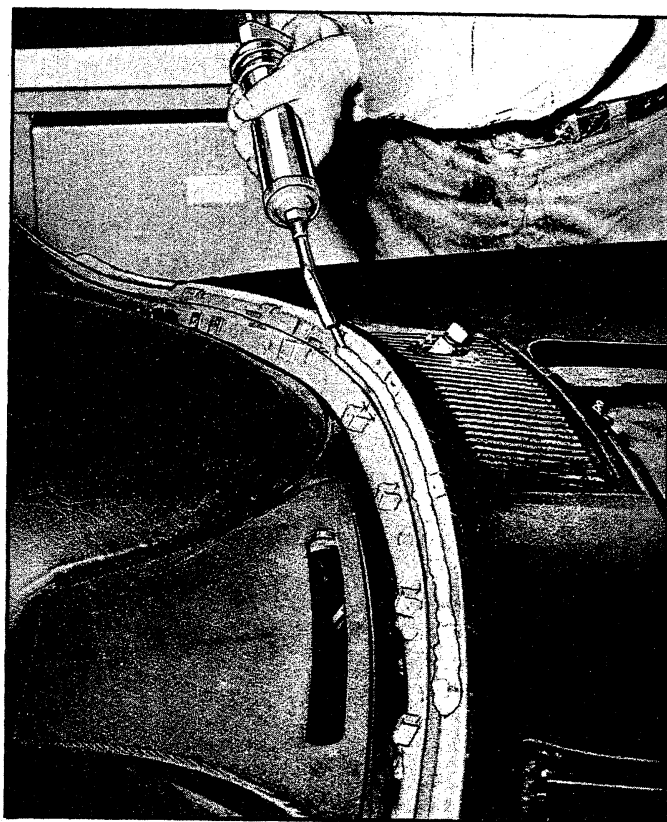

Fig. 20—Applying Sealer
3. Apply a bead of gun grade body sealer such as 3M-1170 in apex of windshield frame as shown in Figure 20.